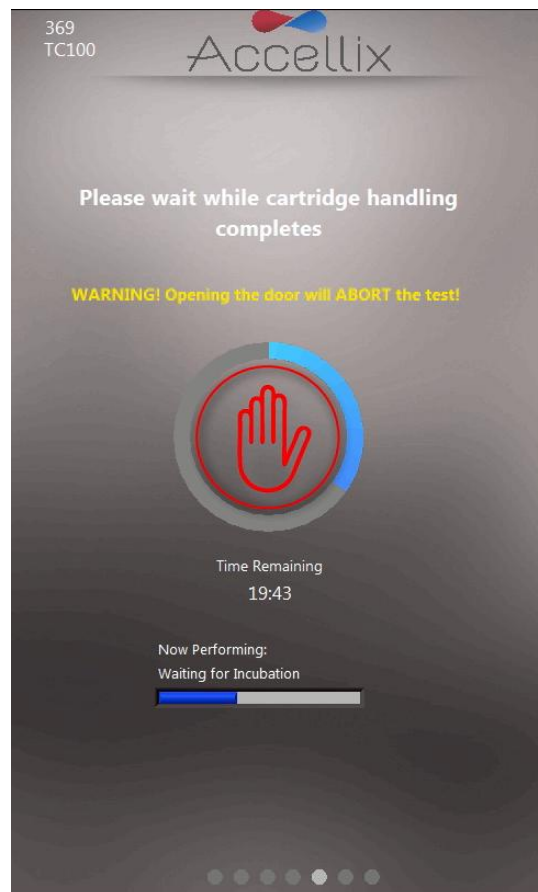

Figure 46: Progress Indicator and Time Remaining screen
11. The **Progress Indicator screen** (Figure 46) displays a progress indicator and a **Time Remaining** countdown timer. The user can monitor the test progress and approximate time remaining.
**Note:** To stop an assay that is in progress, the user can tap **Stop**, the red hand at the center of the **Progress Indicator** (see Figure 46). Refer to Section 11.3, Termination of an Assay Run.
The **Stop** icon may be used to terminate an assay run (Figure 46 Progress Indicator and Time Remaining screen).